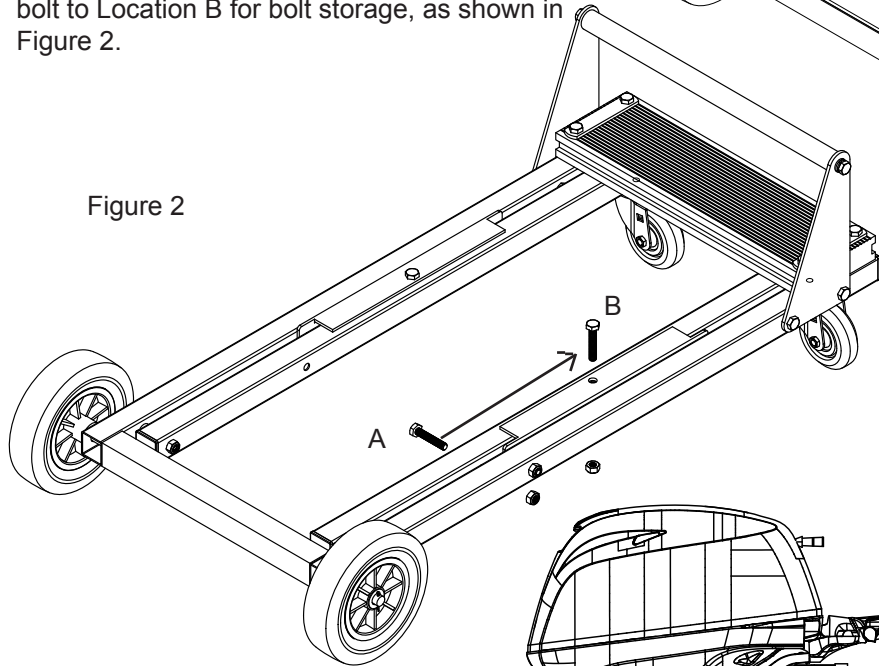

Figure 2
4. To store motor dolly remove bolts Location A, fold the top half down the insert and tighten the bolt to Location B for bolt storage, as shown in Figure 2.